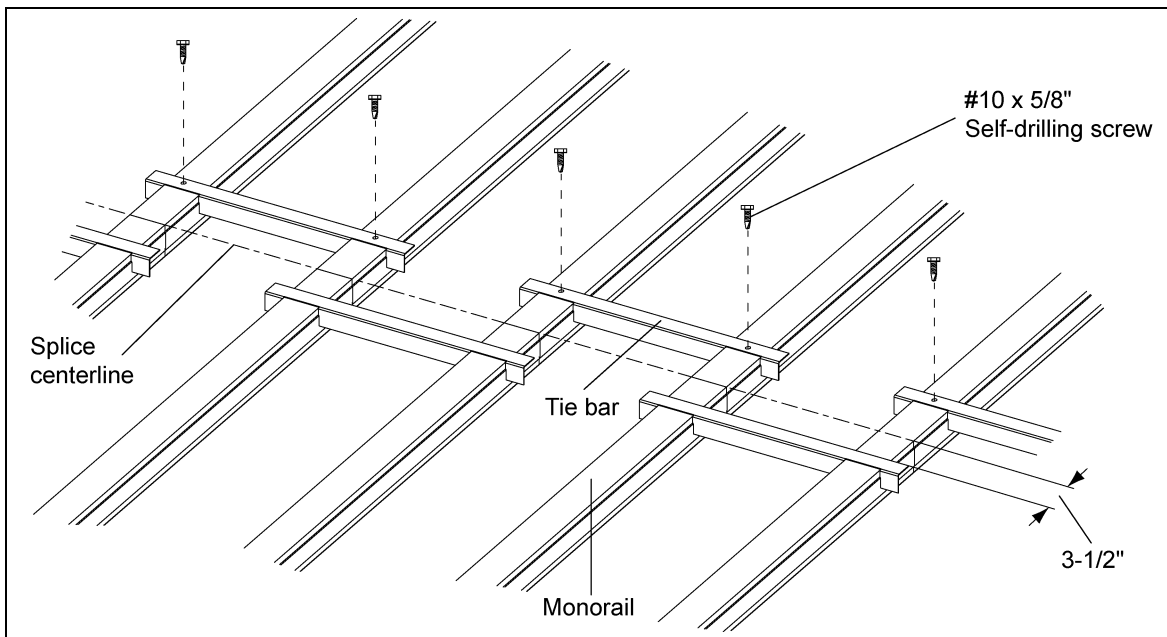

Figure 4C Tie Bar Dimension Detail
3. Tie bars should overlap and connect each rail to the next rail. Tie bars should be located along each side of a rail splice and around the perimeter of the bin, no more than 6" from the end of the rail. (See Figure 4C.)